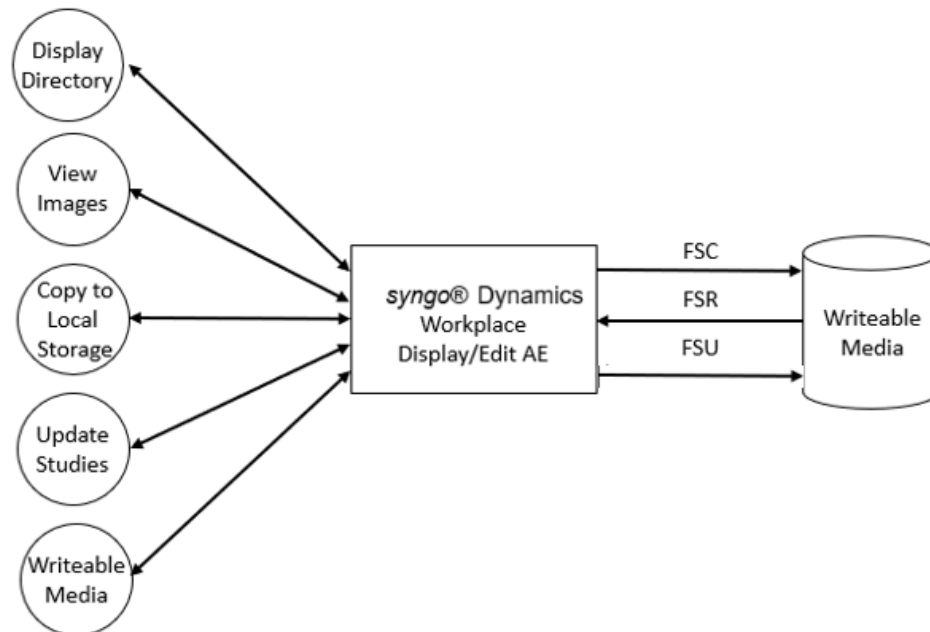
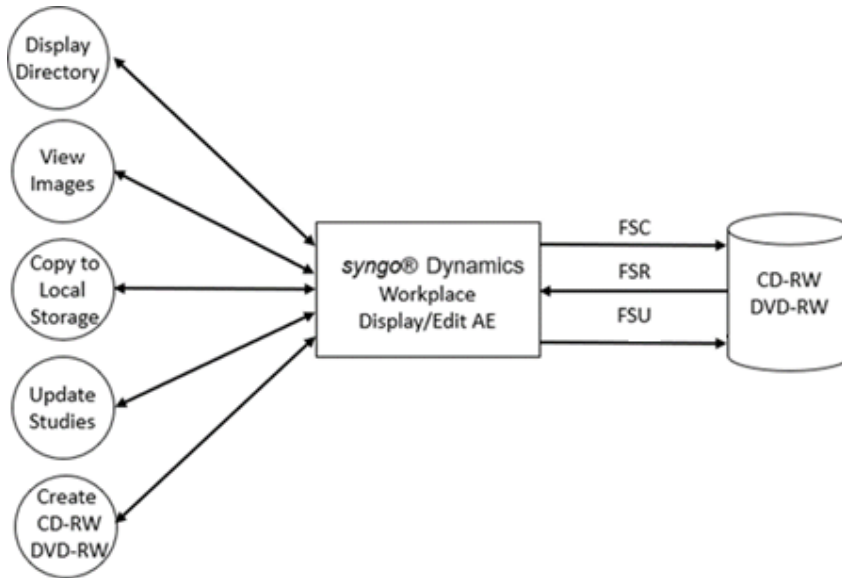

Figure 1: Writeable media Implementation Model
Figure 2: CD-RW and DVD-RW Implementation Model
The Display/Edit Application Entity (AE) handles the Directory Display, Image Viewing, Study Updating, Study Copying and CD-RW/DVD-RW Creation functionality for the CD-RW/DVD-RW device. The Display/Edit Application Entity (AE) is commanded by the user to perform DICOM Services operating on the DICOM media through the use of buttons and menu selections on the graphical user interface of the station. The Application models for the CD/DVD device (writeable media) are shown in Figure 1. Note that the *syngo*® Dynamics Workplace does not support any official Application Profiles for CD/DVD. However, DICOM Media exchange files can be written and read along with a DICOMDIR in accordance with Figure 2.